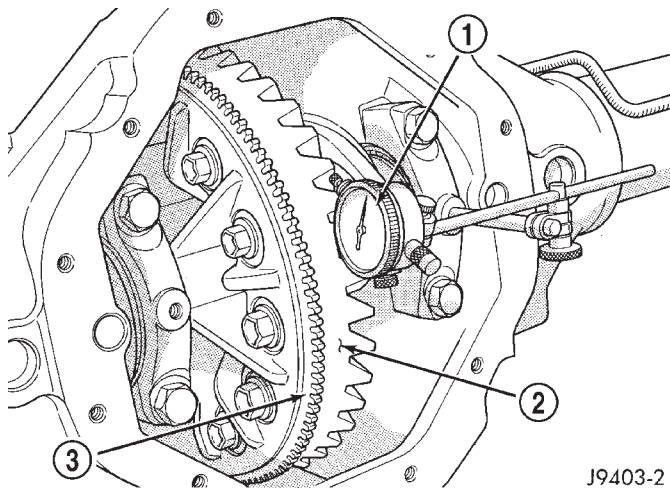

Fig. 58 Ring Gear Backlash Measurement
(2) Install dial indicator and position the plunger against the drive side of a ring gear tooth (Fig. 58). Measure the backlash at 4 positions (90 degrees apart) around the ring gear. Locate and mark the area of minimum backlash.
(3) Rotate the ring gear to the position of the least backlash. Mark the gear so that all future backlash measurements will be taken with the same gear teeth meshed.
(4) Loosen the right-side, tighten the left-side threaded adjuster. Obtain backlash of 0.003 to 0.004 inch (0.076 to 0.102 mm) with each adjuster tightened to 14 N·m (10 ft. lbs.). Seat the bearing cups with the procedure described above.
(5) Tighten the differential bearing cap bolts 95 N·m (70 ft. lbs.).
(6) Tighten the right-side threaded adjuster to 102 N·m (75 ft. lbs.). Seat the bearing cups with the pro-